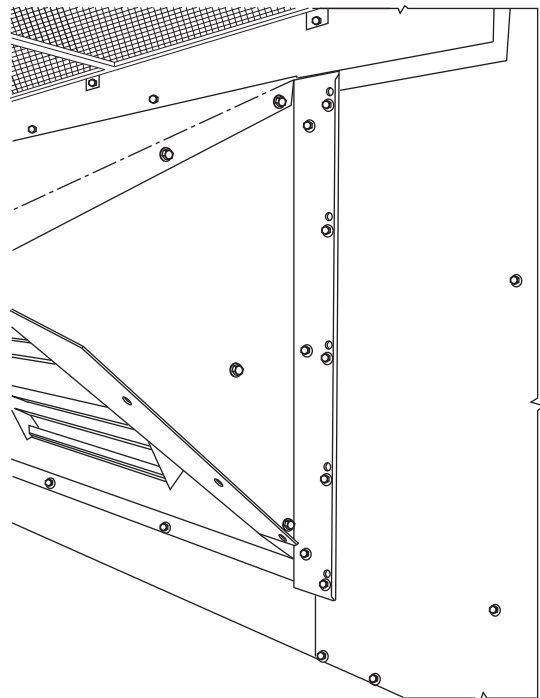

Fig. 13 — Blockoff and Hood Positioning
5. Install the side blockoffs using the screws included (no. 14-10 x 7/8 in.). Be sure to properly position the hood. See Fig. 13 for positioning.